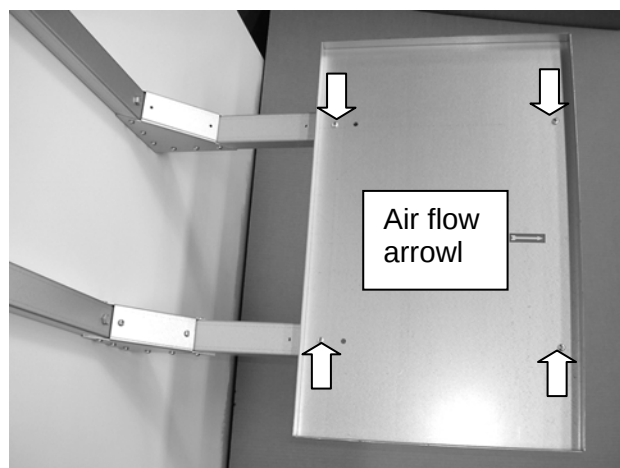

Fig 2
2. Fit the support plate with the air flow arrow pointing in the direction in which the dehumidifier discharges air. If the dehumidifier is to discharge the air straight out from the wall, fit as shown in Fig. 2. Secure the plate with four ST4.8x13 screws (see the arrows in Fig. 2).